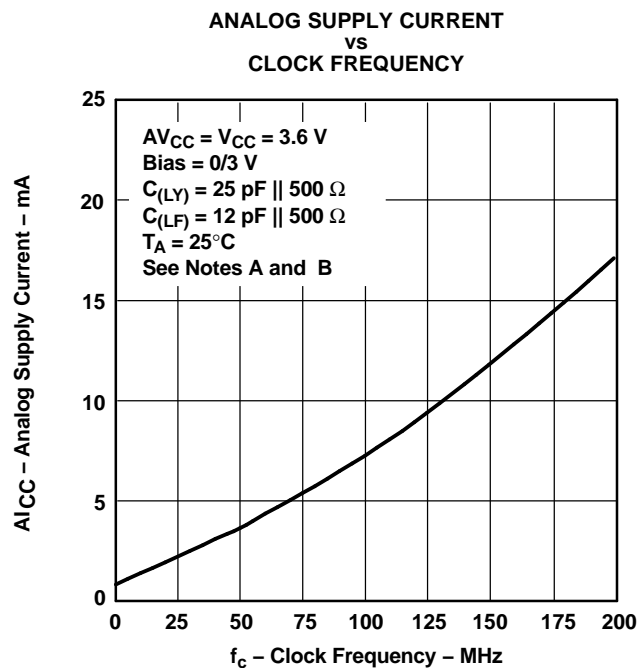
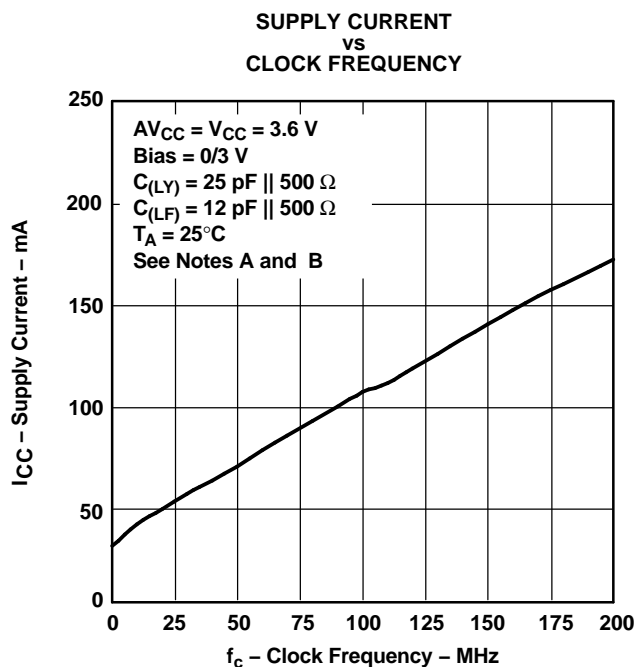

Figure 8.
Figure 9.
(1) For conditions shown as MIN or MAX, use the appropriate value specified under the *recommended operating conditions* section.
(2) For dynamic  $I_{CC}$  vs Frequency, see Figure 8 and Figure 9.